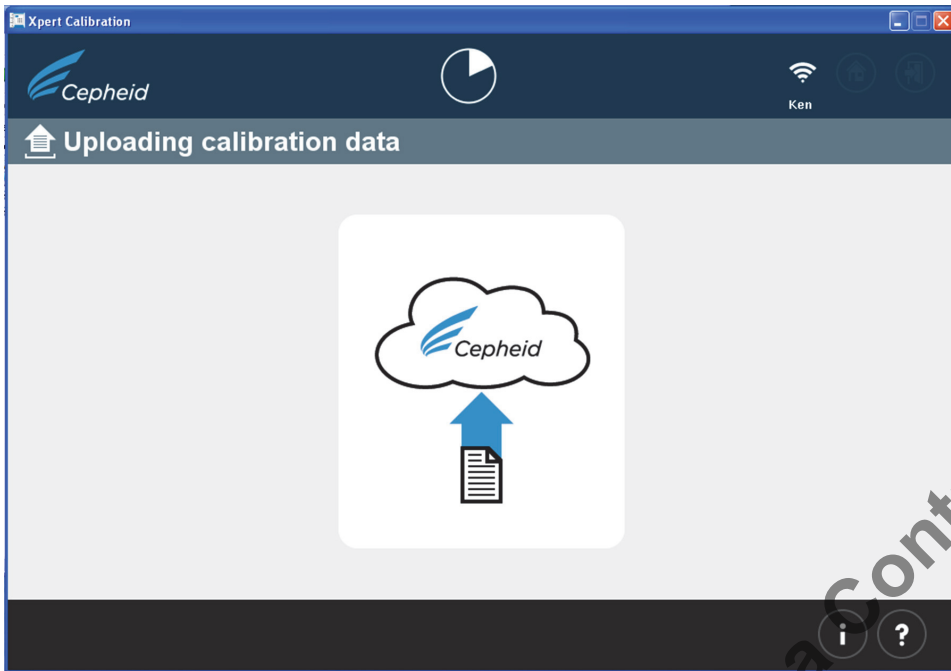
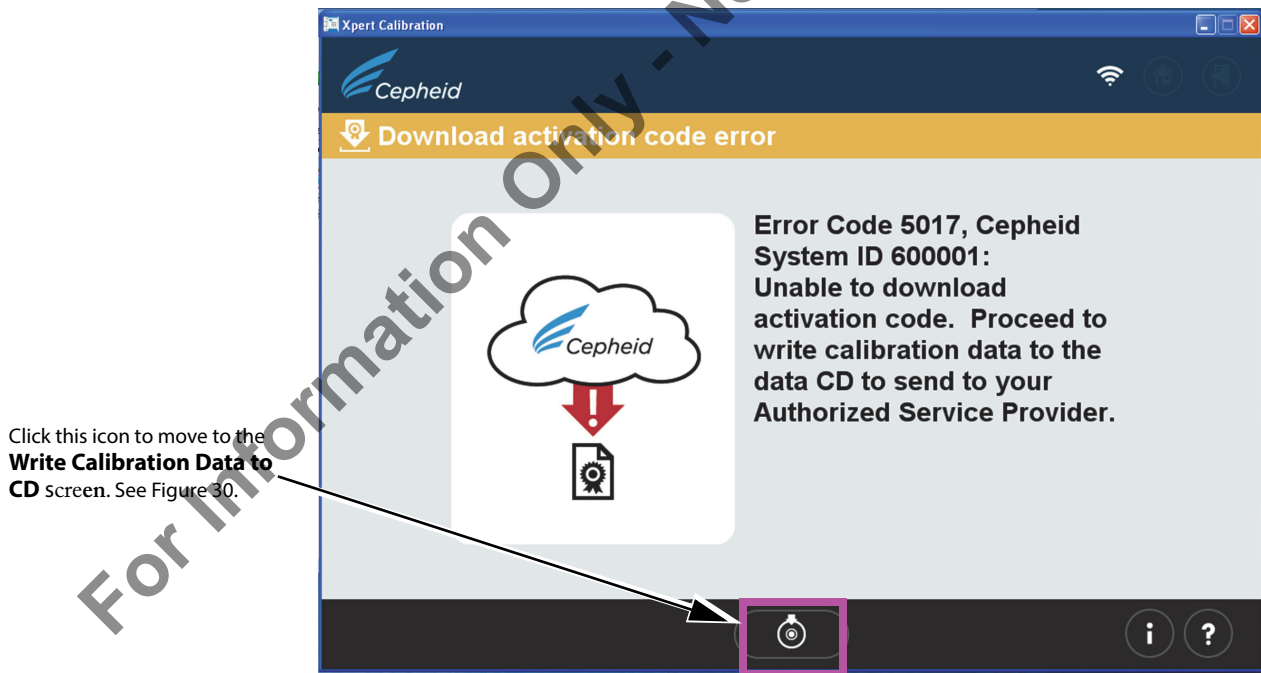

Figure 21. Uploading calibration data Screen
Figure 22. Download activation code error Screen
19. After successful test completion and calibration data collection, click the forward arrow to display the screen shown in Figure 21, if you have an active internet connection. However, if you have never been internet connected, or have lost your functioning internet connection sometime during the calibration test, a **Download activation code error** screen (Figure 22) will appear instead, instructing you to write calibration data to data CD2 to send to your ASP. In this case, continue to step d (under step 25) of this procedure to continue as a user without an internet connection.
Important: If you have been running this test as an internet-connected user and then lost your internet connection and received an error screen (Figure 22, resume your procedure beginning with the following step d., continuing through step 31.